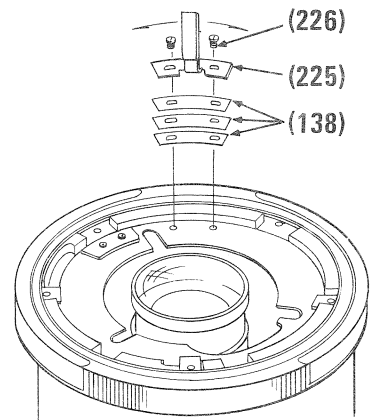

FIG. 9-11
e) If coupling arm does not contact gauge block, or height of arm is incorrect, proceed as follows: (Refer to Fig. 9-11.)
1. Loosen screws (226); adjust the position of the coupling arm (225) until it will contact gauge properly.
2. Add or remove spacer shims (224) until proper height is obtained.